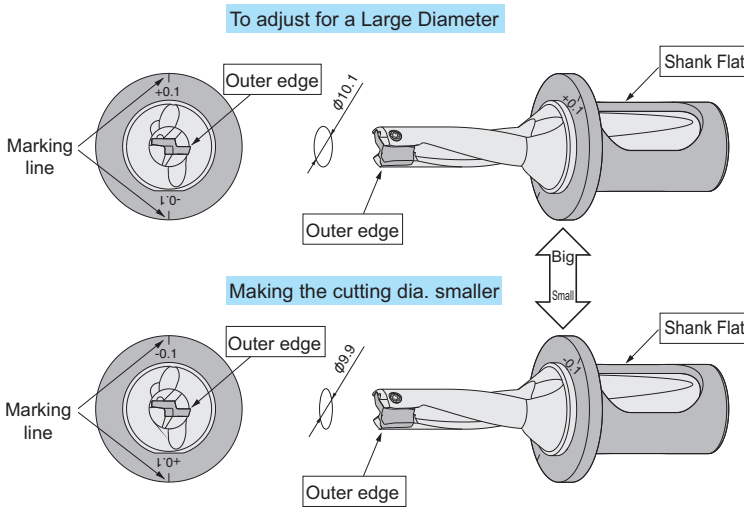

Fig.1 Diameter Adjustment Method (e.g.) φ10 Drill
- ① Set the outer edge horizontally with 90° to making line on the sleeve. (Fig.1)
- ② To adjust to larger diameter, align the +0.1 mark on the sleeve with the flat on the drill shank.